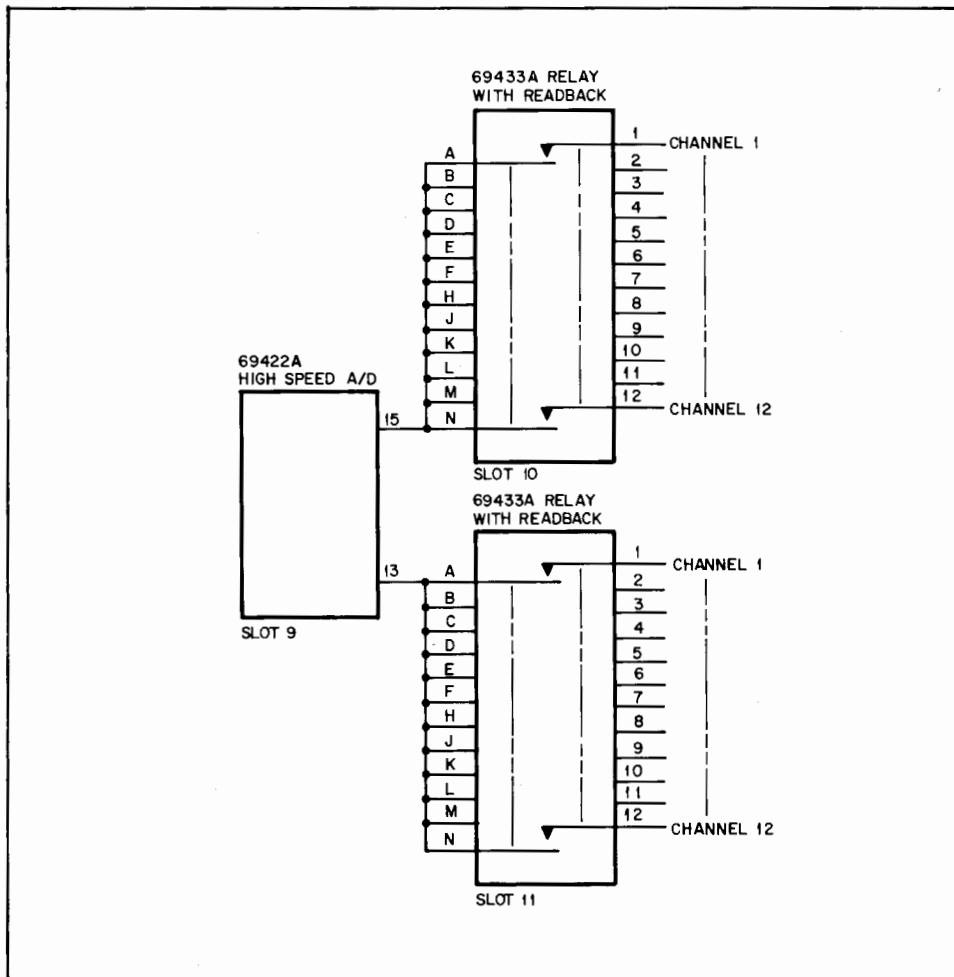

Figure 3-2. Double Scan Connection Diagram
**USED WITH (See Figure 3-2)**